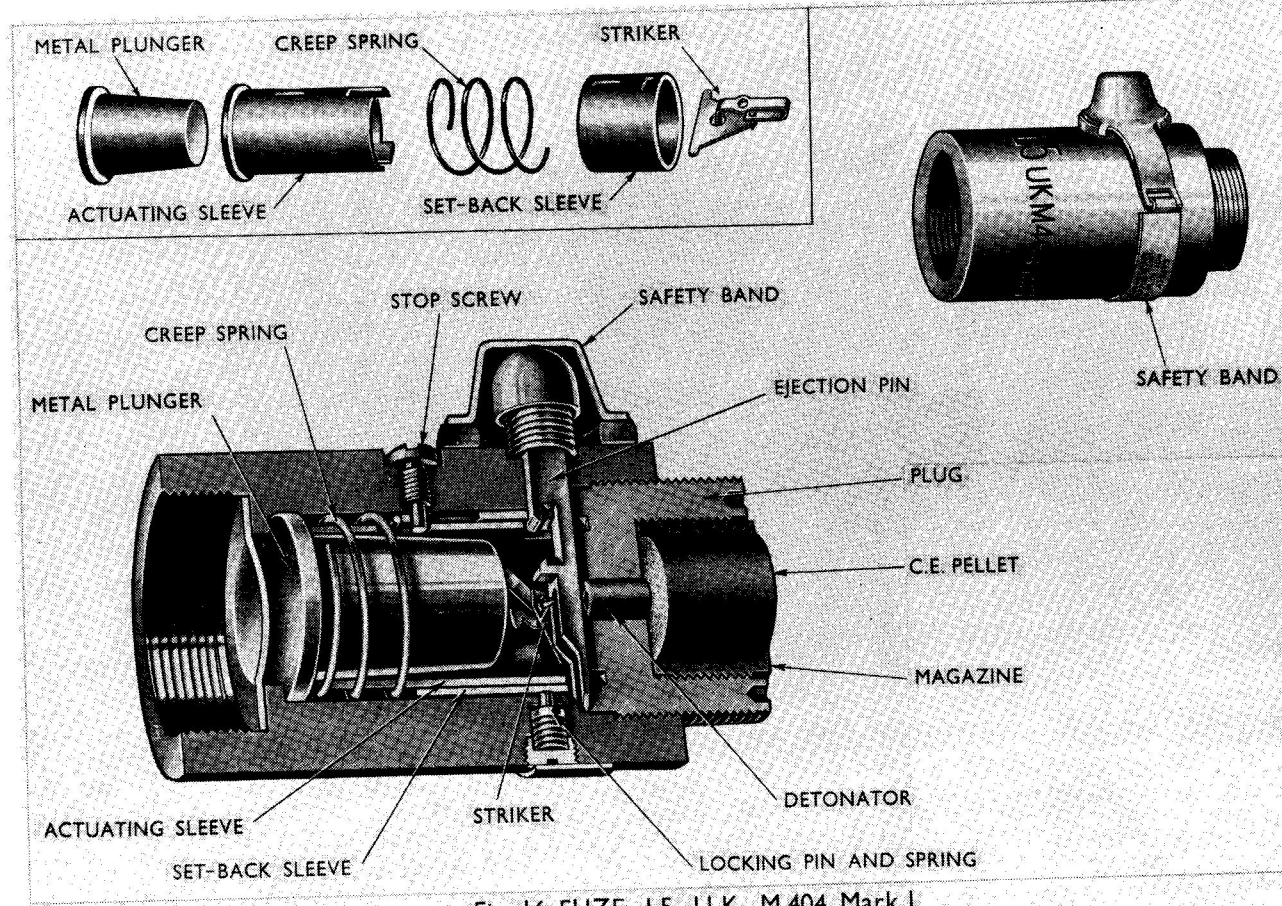

Fig. 16 FUZE, L5. U.K. M404 Mark I
23.0. The fuze (Fig.16) is a base percussion type, cylindrical in shape, with an external diameter of two inches. The front end is closed by a plug which is threaded externally to take the rocket head and internally the magazine containing a C.E. pellet. The rear of the fuze body is threaded internally to receive a body closing adapter on to which is screwed the rocket motor. Internally the fuze is fitted with a metal plunger, an actuating sleeve, a set back sleeve, creep spring and striker. Passing into the fuze from the outside is an ejection pin, and adjacent to it a stop screw. The side of the fuze opposite to the ejection pin is fitted with a locking pin and spring.